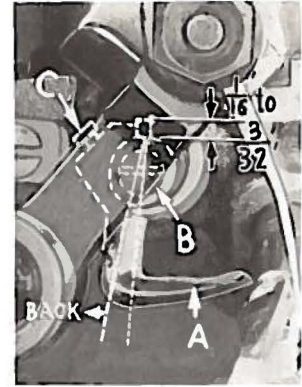

Fig. 7A
Insert the upper looper (A, Fig. 7A) in its holder. Screw (B) holds upper looper in its holder, and permits it to be pushed in or out or turned around its shank. Insert upper looper holder into upper looper shaft, if it is not already in place. Screw (C) on clamp holds the upper looper holder in the shaft. Locate the upper looper in its holder so that the shank extends $\frac{1}{16}$ to $\frac{3}{32}$ inch beyond holder (Fig. 7A).
When the upper looper is at the right end of its stroke, upper looper holder should be set to position upper looper shank back of vertical (Fig. 7A), but be sure there is a clearance between heel of looper and casting. Now, by adjusting looper holder in or out of upper looper shaft and by turning the looper around its shank, set upper looper point to cross lower looper to the left of the lower looper eye with .002 to .004 inch clearance (Fig. 8A).
Check the setting to avoid interference between the upper looper and the needle on the needle downstroke. If the needle rubs the back of the upper looper, pull the looper out of its holder slightly to reduce the $\frac{1}{16}$ to $\frac{3}{32}$ inch dimension (Fig. 7A) and rotate the looper a short distance counterclockwise, looking from the left end of the machine. Reset to maintain the dimensions of Figures 8A and 9A.